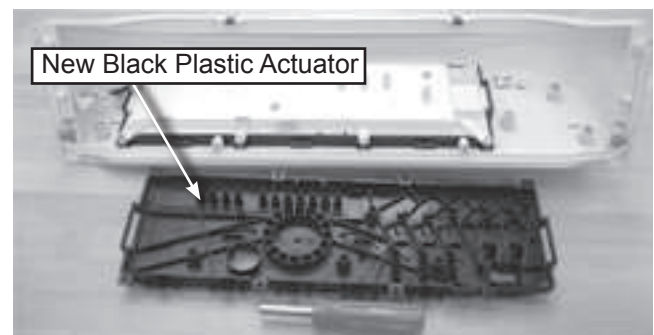

Figure 3
4. Remove new black plastic actuator from the service assembly in the kit. Install the new user interface onto the original black plastic actuator mounted in console. Discard the new black plastic actuator. See Figure 3.